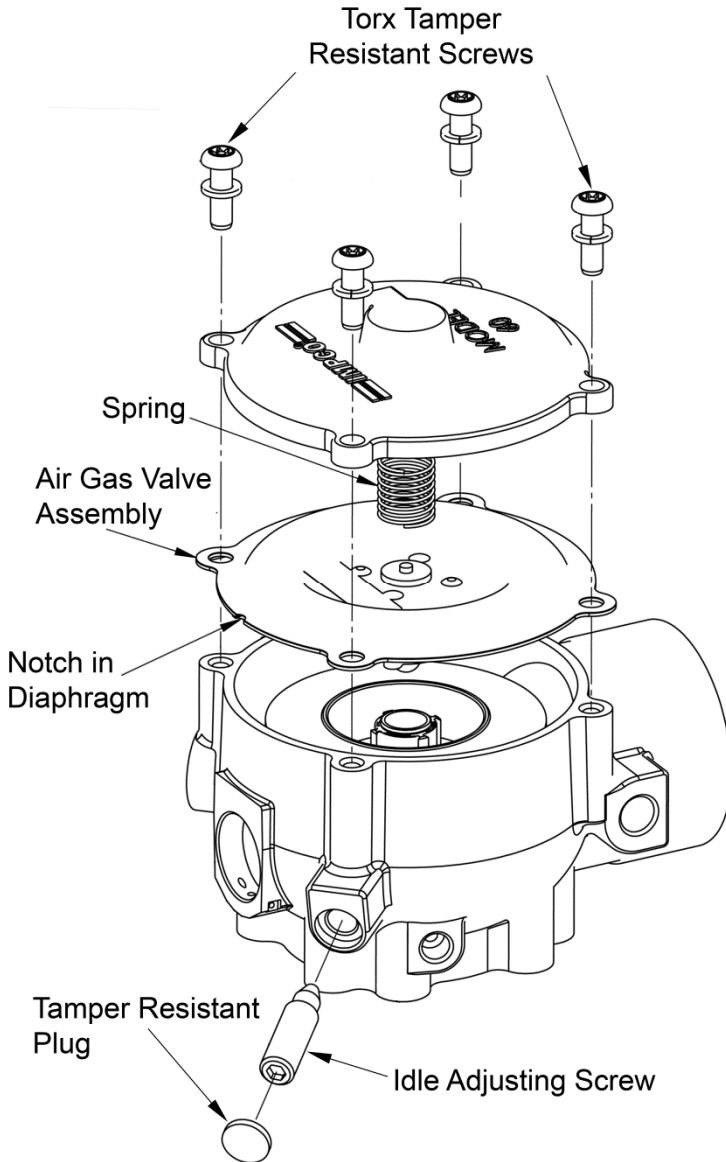

Figure 1: A view of the FT60M components covered in this repair kit instruction.
9. Install the Air Gas Valve assembly with the notch in line with the mixer fuel inlet port, as shown in Figure 1. Re-install the Spring.